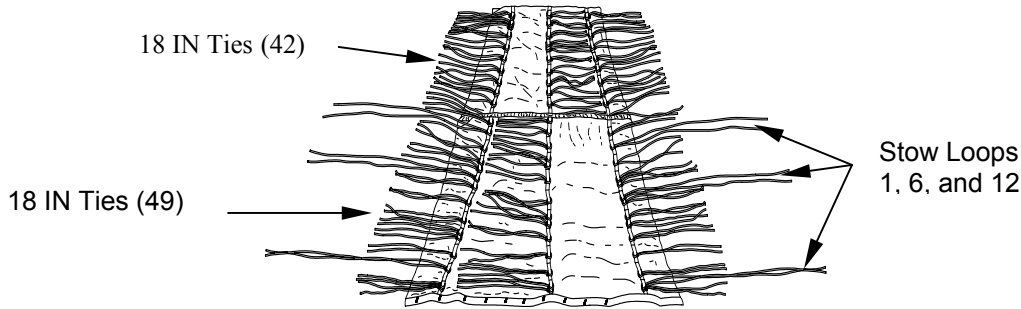

Figure 4. Extraction Line Bag with Ties Installed.
- c. Cut six 24-inch lengths of type I, 1/4-inch cotton webbing. Girth hitch 3 ties to the left and right stow loop rows of the bottom panel using stow loops 1, 6, and 12 (figure 4).